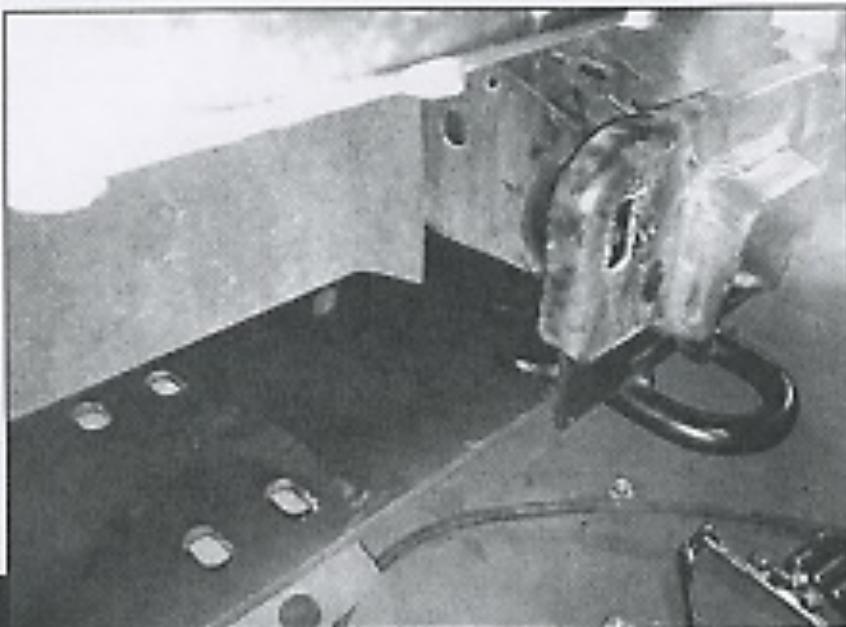

Fig 7
1. Align the winchplate on the underside of the frame and the backside of the frame. It's easiest to use a $\frac{1}{2}$ " bolt and nut to hold the plate in position. Now reattach the factory tow hooks, using the factory hardware. The tow hooks will sandwich the winchplate between them and the frame. Tighten bolts only snug enough to still allow the winchplate to move front to rear. If you used the $\frac{1}{2}$ " to hold the winchplate in position, remove at this time (Fig 7).